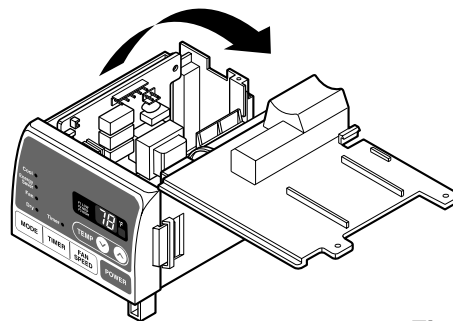

Figure 23
2. Open the top cover from the control box. (See Figure 23)